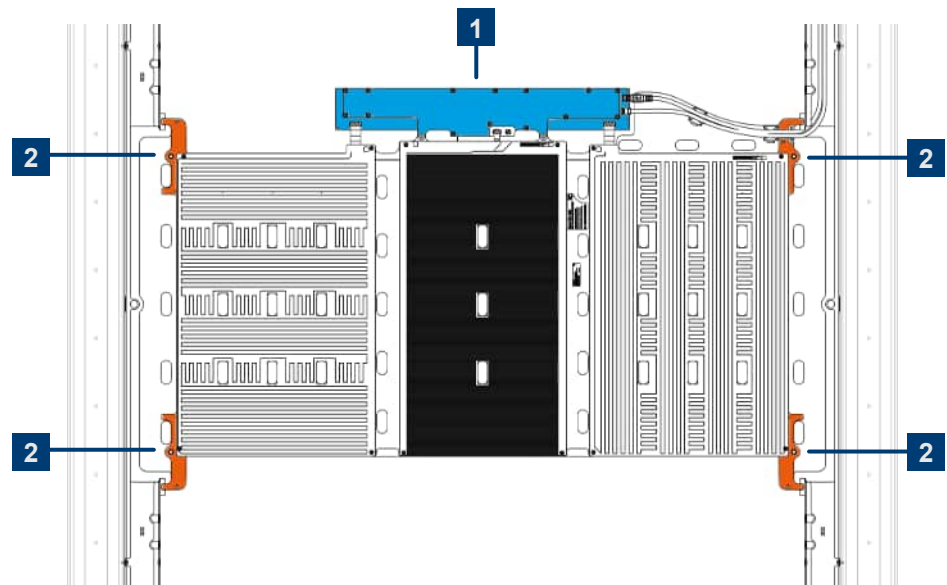

Figure 4-6: Orientation of the shoe scanner unit
- The electronics (1) point to the primary panel. Refer to Figure 4-6.
- The 4 corners (2) of the shoe scanner unit are aligned to the cable ducts. Refer to Figure 4-6.